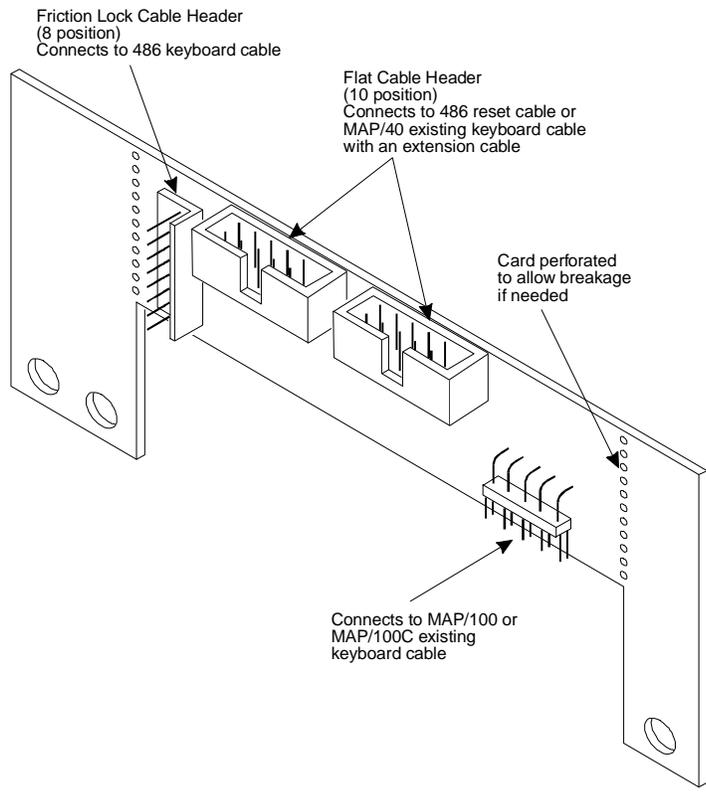
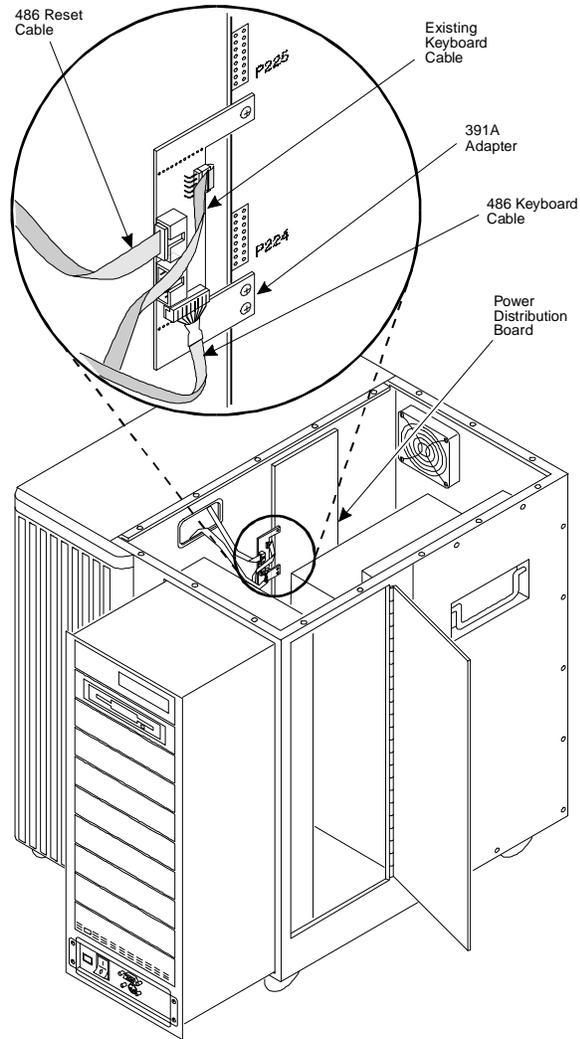

Figure 9-15. CPU/Remote Maintenance Circuit Card Keyboard Adapter
Figure 9-16. CPU/Remote Maintenance Circuit Card Keyboard Adapter Installed in the MAP/100 with Cabling
1. Locate the CPU/Remote Maintenance circuit card keyboard adapter (391A adapter) in the MAP/100. Ensure that the keyboard/reset and the Remote Maintenance circuit card reset cables are dressed through the portal into the card cage (see Figure 9-15 and Figure 9-16).